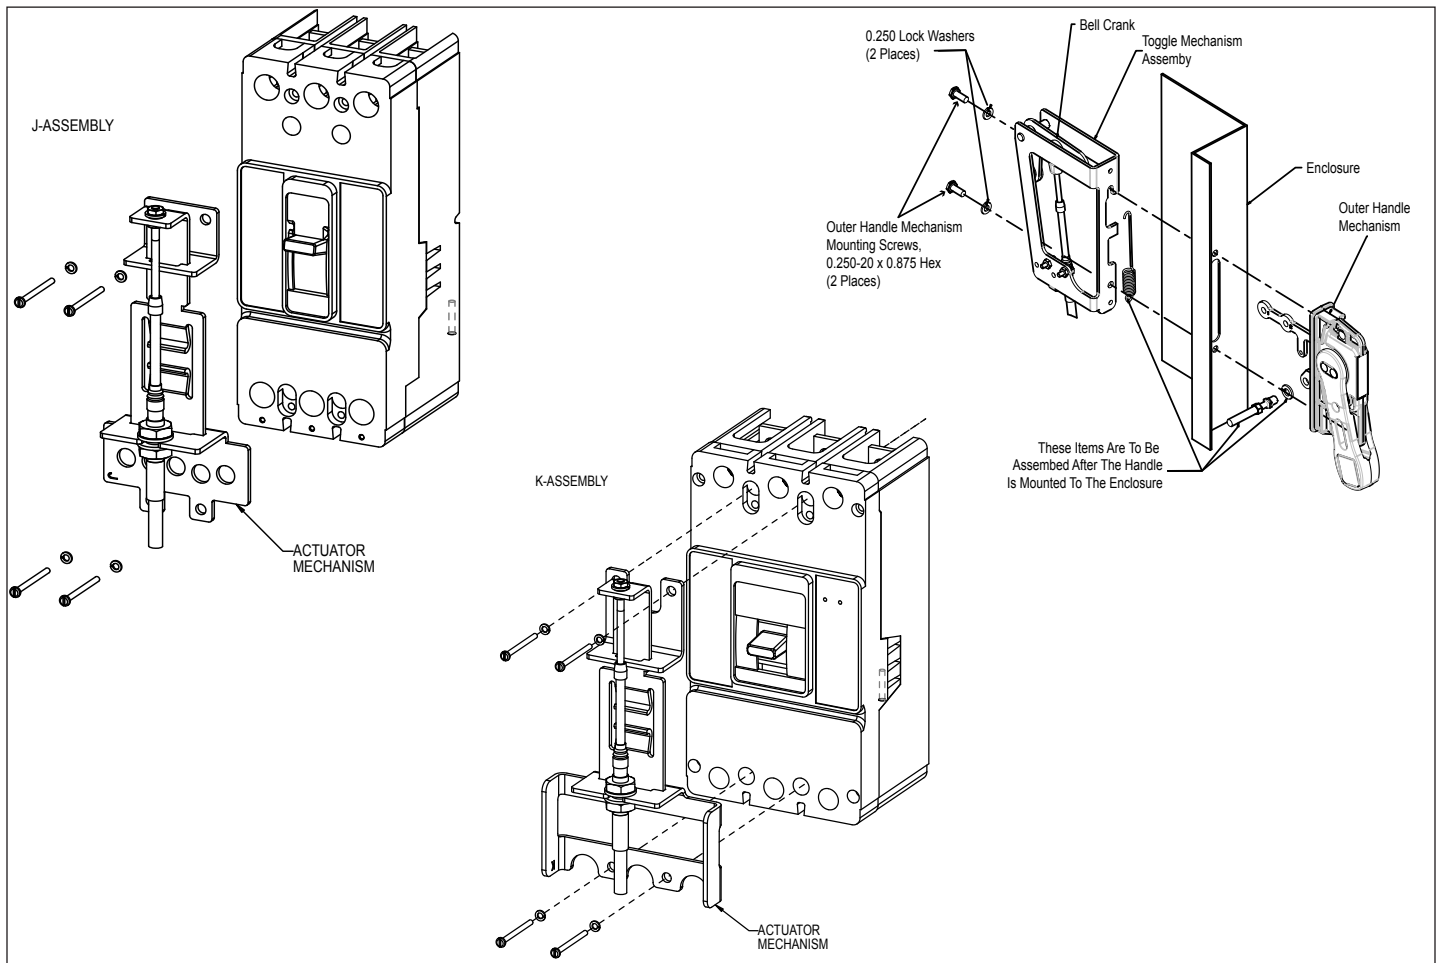

Figure 1. Securing the Actuator Mechanism to the Breaker and Toggle Mechanism and Handle to Flange.
For assembly steps, refer to Figures 1 and 2, unless otherwise noted.
6. Connect the long end of the spring through hole in handle actuator link. Hook the shorter end of the spring into the tab on the lower portion of the toggle mechanism (see Figure 1).